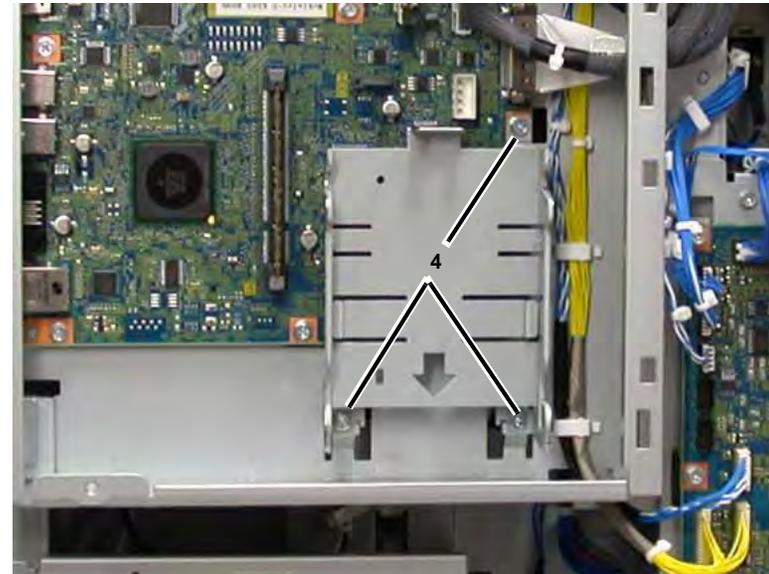

Figure 3 Bracket Screws
4. Remove the HDD Bracket (3 Screws) (Figure 3).